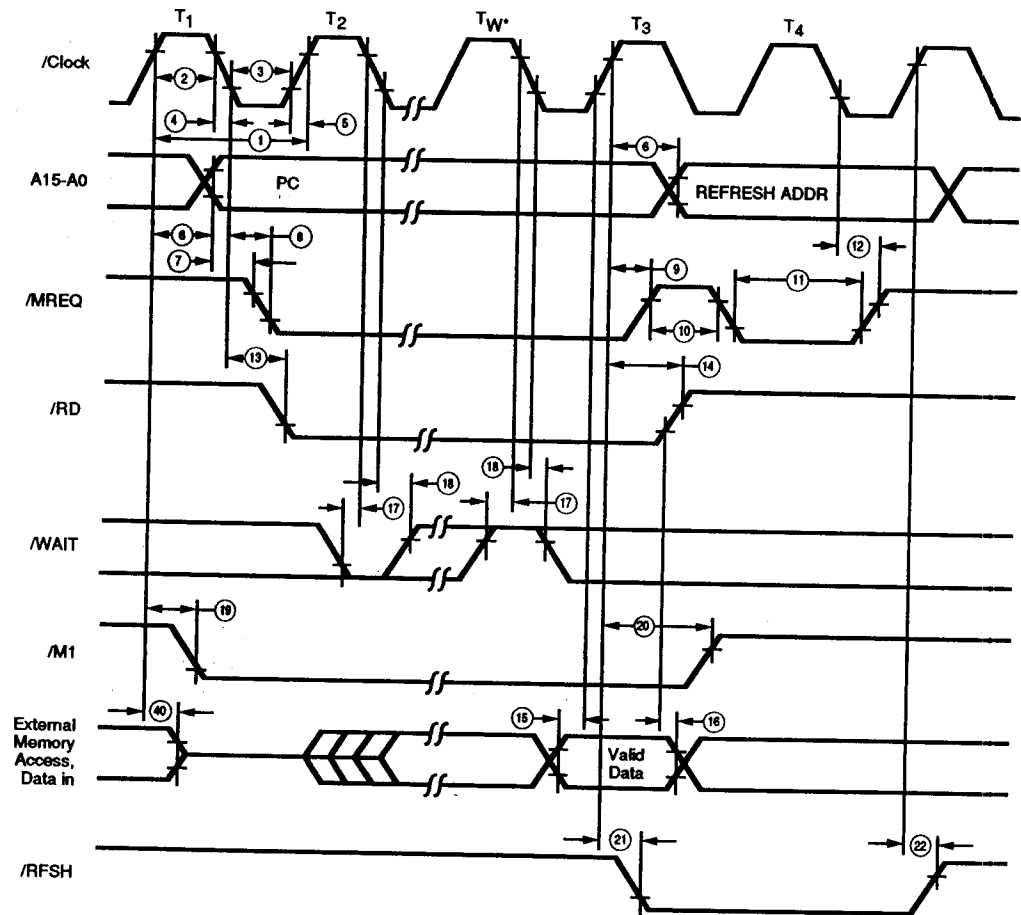

Figure 41. Instruction Op-code Fetch
Parameters referenced in Figure 41 through Figure 48 appear in Table A.
Instruction Op-code Fetch. The CPU places the contents of the Program Counter (PC) on the address bus at the start of the cycle (Figure 41). Approximately one-half clock cycle later, /MREQ goes active. When active, /RD indicates that the memory data can be enabled onto the CPU data bus.
Table A. CPU Timing (See Figure 41 to 48)